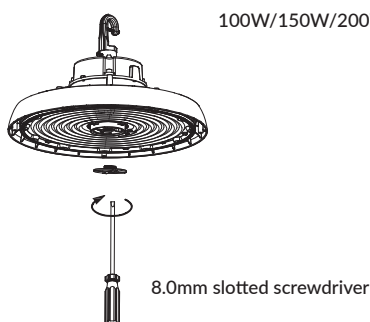

Figure 1
- Take off the cover from the center box with 8.0mm slotted screwdriver (Figure 1).